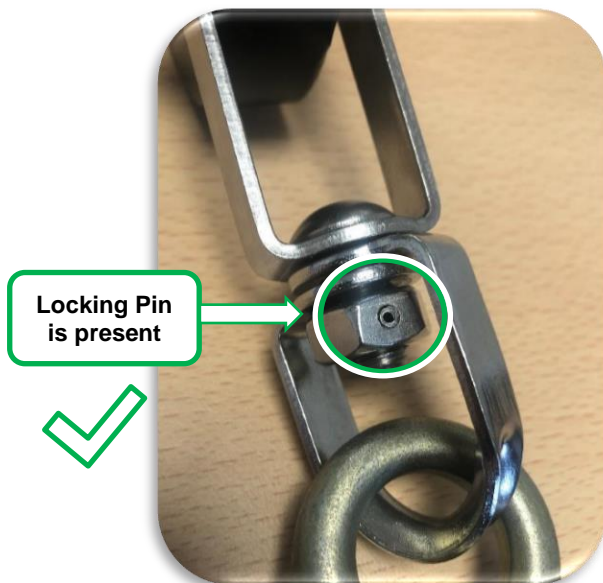

Figure 3: Locking Pin is Present
- a. Locking pin is present (Figure 3) – no further action is needed.